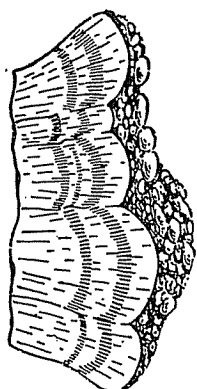

Fig. 28
**Structure**—Commonly radiating fibrous with botryoidal or stalactitic surface (Fig. 28). Also found granular or earthy.